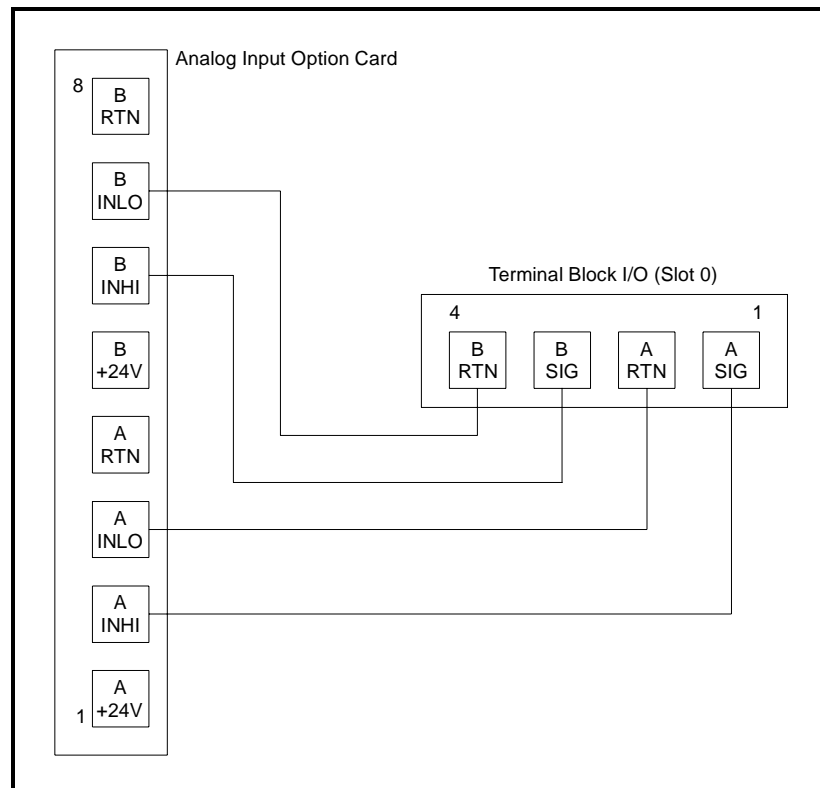

Figure 1-3: Analog Input Calibration Connections
Connect the Slot 0 analog output(s) (or an independent calibrated current source) to the analog input(s) on the option card, as shown in Figure 1-3 below. Refer to the menu map in Figure 1-6 on page 1-15 as a guide.
The procedure for calibrating Input A is identical to that for calibrating Input B. However, when calibrating Input B, be sure a calibrated current source is connected to the appropriate pins on the terminal block. See Figure 1-3 on the previous page for the correct pin numbers. To calibrate a 0/4-20 mA input card, see the section below.
1. Connect the 4 mA current source to the currently selected analog input, as shown in Figure 1-3 on page 1-6.
1. Connect the 20 mA current source to the currently selected analog input, as shown in Figure 1-3 on page 1-6.